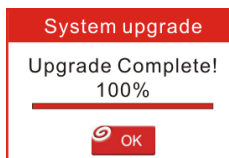

Figure 9
12. The registration process is now complete, your Creader VII+ / Creader VIII is now ready for use (See Figure 9).